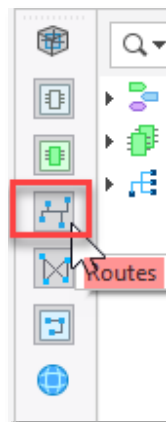

Figure 3.31. Routing Mode Menu Options
2. From the menu options, click on the **Routes** icon as shown in Figure 3.31.